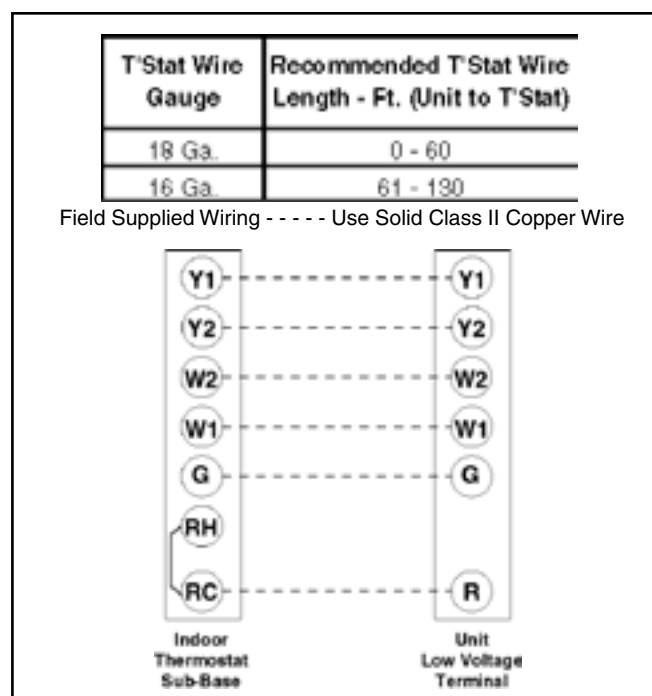

Figure 7. Typical Connections - 2 Stage Heat/Cool T-Stat
3. Connect the cable leads to the subbase or thermostat terminals and to the unit's low voltage terminal block as shown in Figure 7. A system wiring diagram is also provided on the inside of the control access panel and in Figure 8a and 8b of these installation instructions.